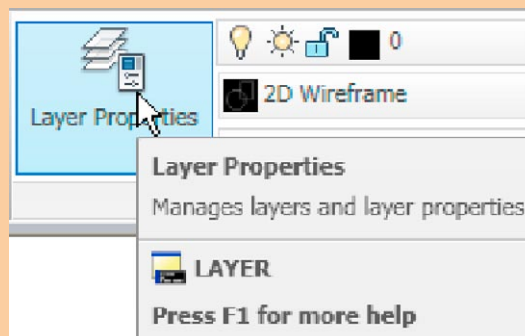

Fig. 12.4 The **Layer Properties** icon in the **Layers & View** panel
- a. Click the **Layer Properties** icon in the **Home/Layers & View** panel (Fig. 12.4).